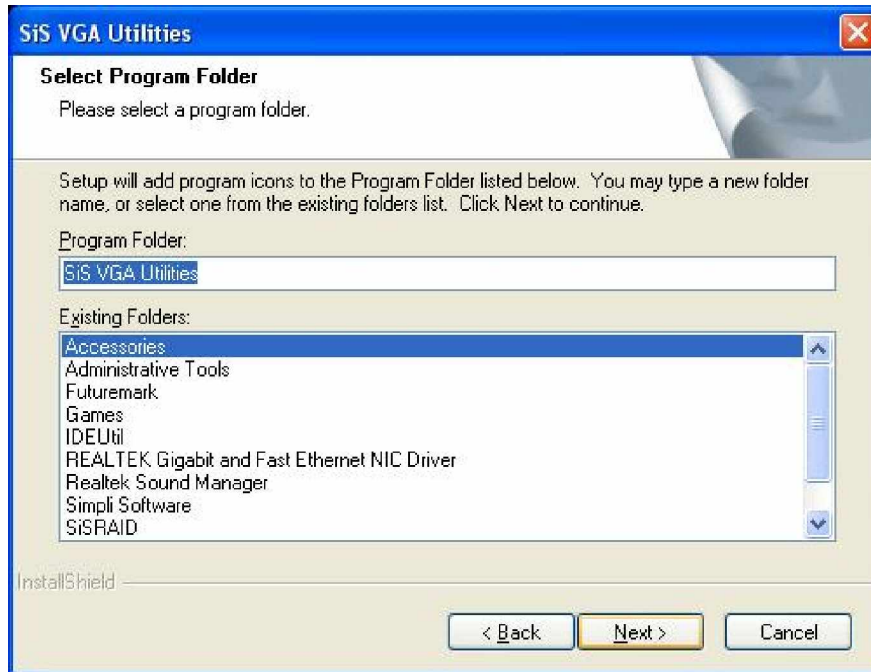

Figure 6-15: Select Folders to Copy Files
- Step 4:** Select a folder to copy the files in (see **Figure 6-15**). Once the setup type is selected, click on the **NEXT** button.